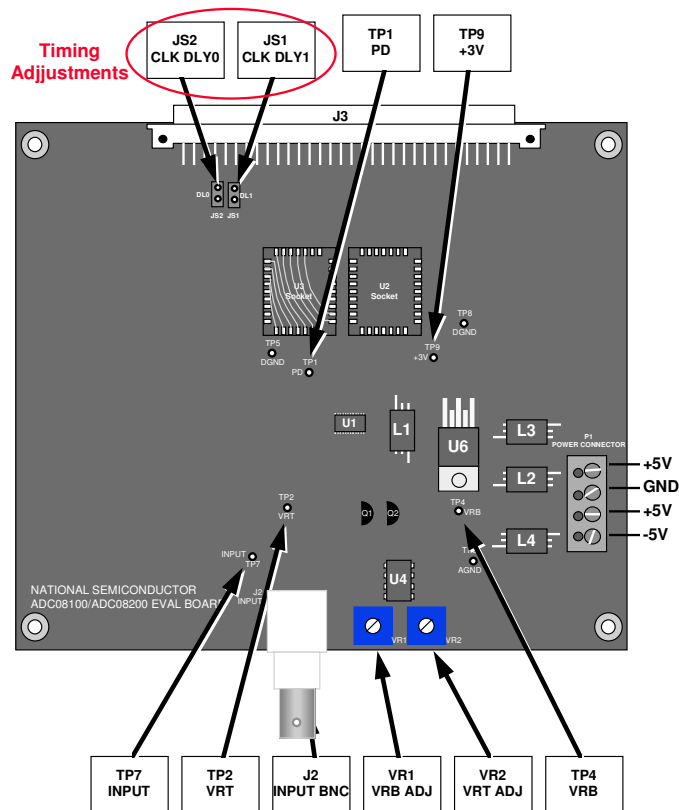
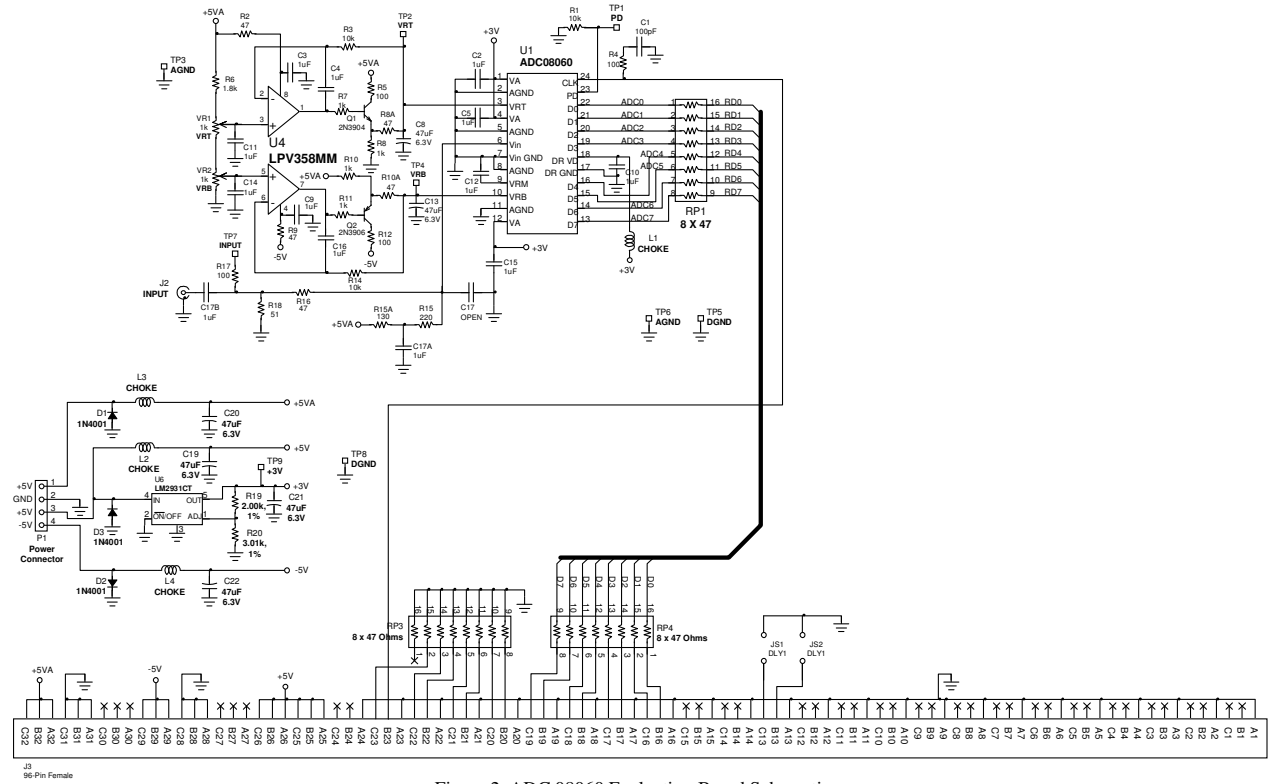

Figure 1. Component and Test Point Locations
Figure 2. ADC 08060 Evaluation Board Schematic
The ADC08060 Evaluation Board may come pre-assembled or as a bare board that must be assembled. Refer to the Bill of Materials for a description of components, to *Figure 1* for major component placement and to *Figure 2* for the Evaluation Board schematic.
Refer to *Figure 1* for locations of test points and major components.
3. Connect a clean power supply to the terminals of connector P1. Adjust power supply to voltages of $\pm 4.75V$ to $\pm 5.25V$ before connecting it to the board. Section 4.7 describes what voltages are needed on each pin of P1. *Figure 1* also shows these voltages. Turn on the power and confirm that there is 3 Volts at TP9.
The ADC08060 Evaluation Board component and test point locations are shown in *Figure 1*. The board schematic is shown in *Figure 2*.
Refer to Figure 1 for locations of connectors, test points and jumpers on the board.
Refer to Figure 1 for locations of connectors, test points and jumpers on the board. If at any time the expected response is not obtained, see section 5.2.5 on Troubleshooting.